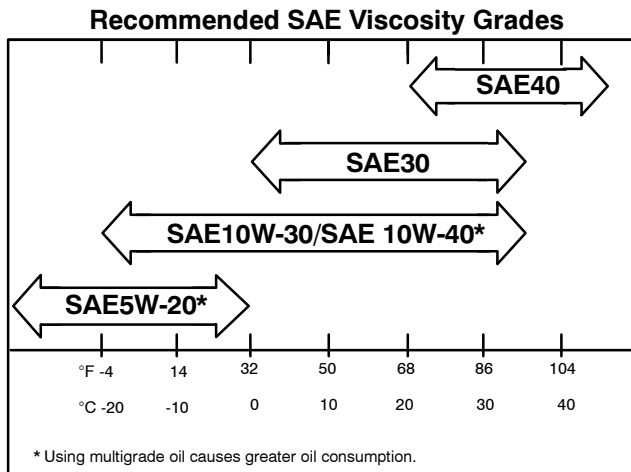

Figure 3-1 Engine Oil Selection
Use oil that meets the American Petroleum Institute (API) classification of SC, SD, SE, SF, SG, or SH. Using unsuitable oil or neglecting an oil change may result in engine damage that is not covered by the engine warranty. Figure 3-1 shows the recommended Society of Automotive Engineers (SAE) viscosity designation for given operating temperature ranges.
8. Fill crankcase with oil. Section 1 shows the oil fill location. See Figure 3-1 for oil selection and Figure 3-3 for oil capacity. Replace the oil-fill cap.